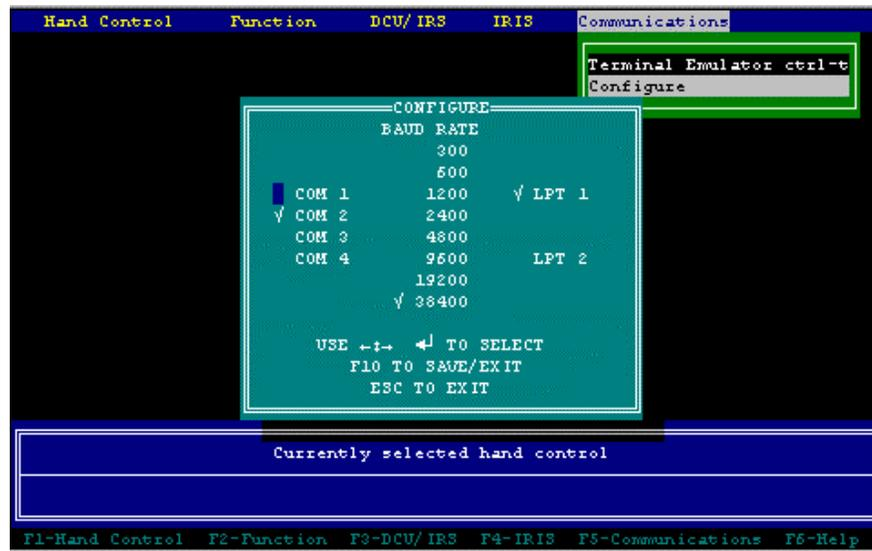

Figure 5. “IRLIB Configure” Dialog Box
2. Move your cursor down so that you highlight the “Configure” option, then press *Enter*. This will bring you to the screen shown in Figure 5.